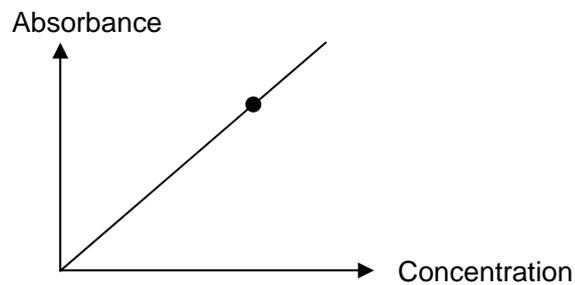

Figure 5-2 Single point calibration
- 1) Single point calibration: One standard needs to be set, take the line between the original point and standard point as calibration curve (X-axis is concentration, and Y-axis is absorbance, the same with the following). Single point calibration must set blank to adjust the zero point. As shown in Figure 5-2.